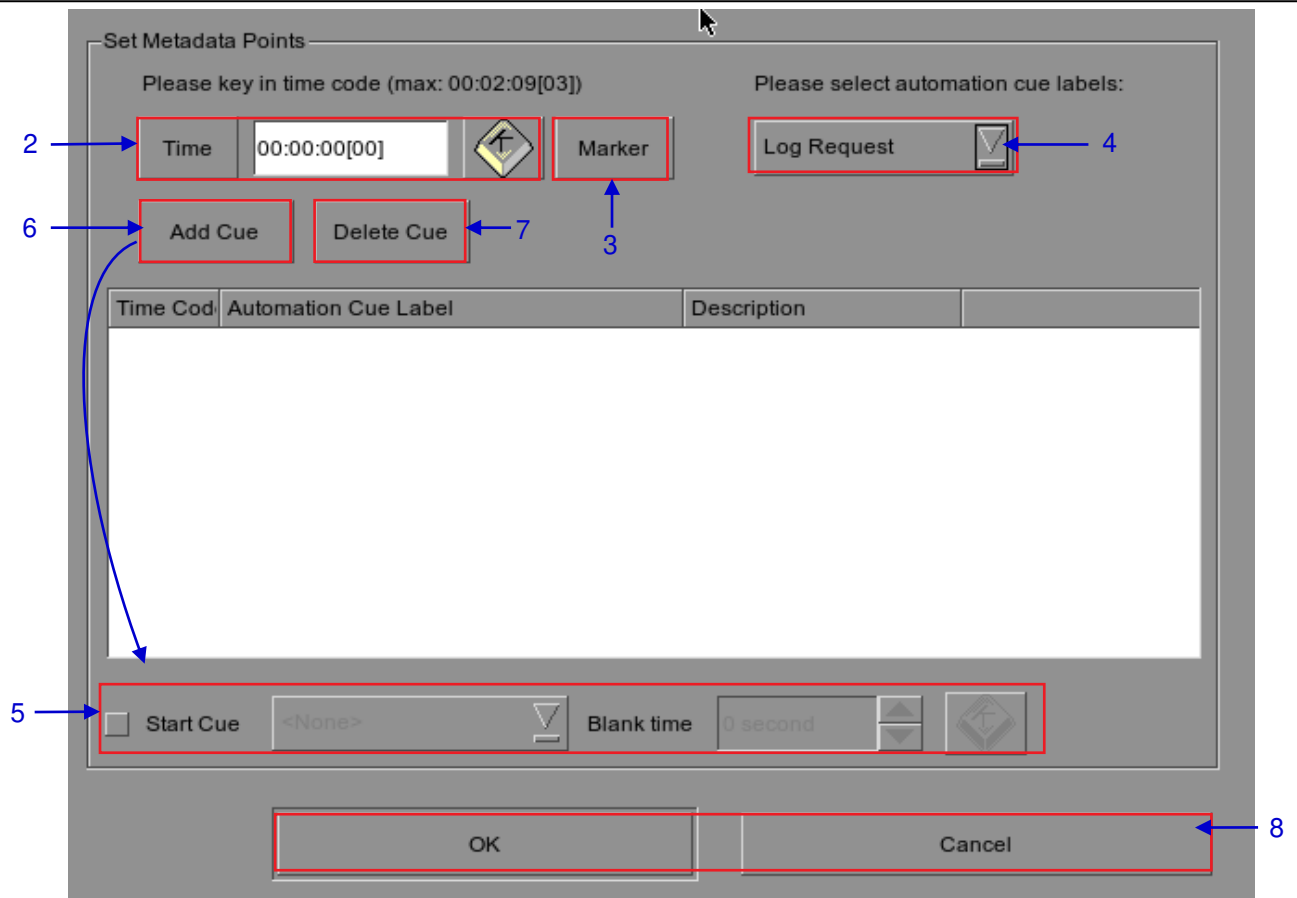

Figure 35 Edit Cue
- 1 To edit a cue of a composition on the playlist, select the desired composition from the **Playlist Management** and press **Edit Cue**. A new window displaying the **Edit Cue** opens as seen in **Figure 35**.